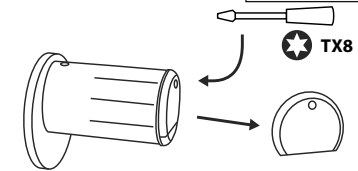

Fig. 2
- 1 Using the TX8 screwdriver provided, loosen the screw on the inner side of the door at the front end of the knob and open the cover. The screw can only be unscrewed up to the opening of the cover and will not fall out. (Fig. 2).